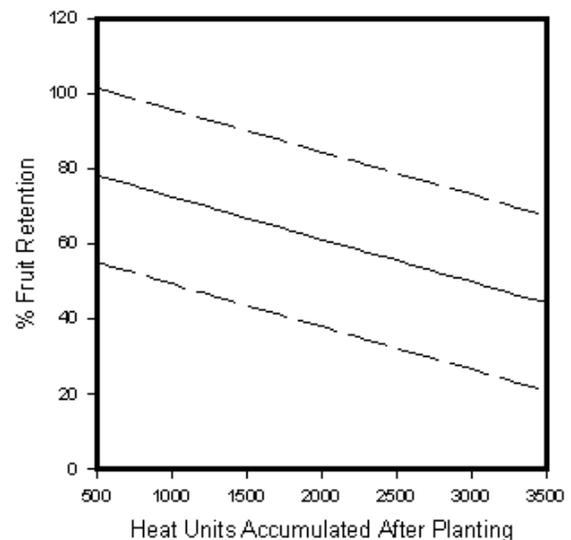

Figure 2. Fruit retention baseline with upper and lower thresholds.
a strong bearing on estimating N needs. Crop fruit retention (FR) patterns can be compared to established baselines for Arizona cotton (Figure 2). Since the FR level is directly related to crop N requirements, some assessment of crop vigor can provide an indication of this important aspect of the crop. A reliable measure of crop vigor can be obtained from a plant height (inches) to node ratio (HNR), which is taken from a simple measure of plant height from the cotyledon nodes, or
in Figures 2 and 3) and an acceptable but declining level of  $\text{NO}_3^-$ -N in the petioles; an application of fertilizer N may very well be in order. On the other